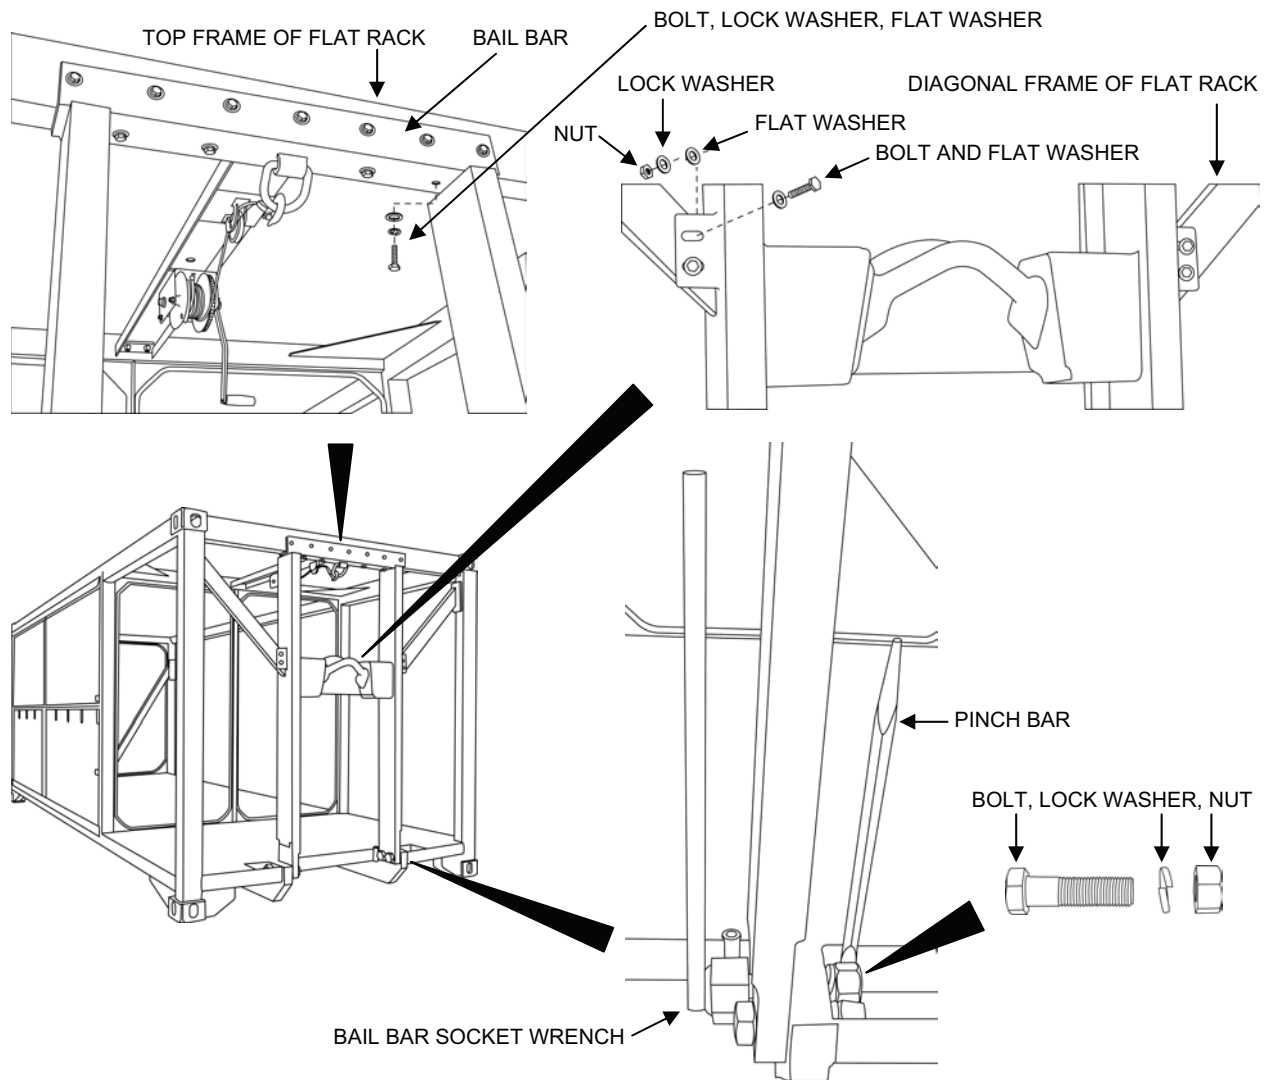

Figure 6. Removing the Bolts from the Bail Bar.
- b. Remove the hardware that secures the bail bar to the flat rack as follows (see Figure 6):
- b. Install the two large bolts, lock washers, and nuts that secure the bottom of the bail bar to the flat rack (see Figure 6).